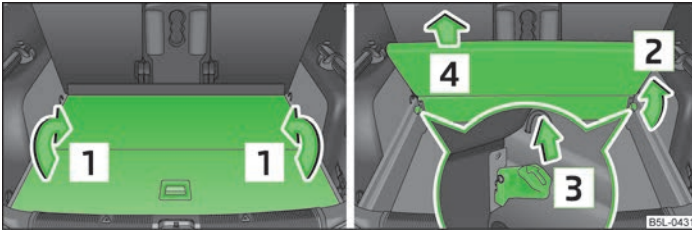

Fig. 61 Boot: Fold up variable loading floor/remove
- Fold up the loading floor by moving it in the direction of the arrow **1** » Fig. 61.